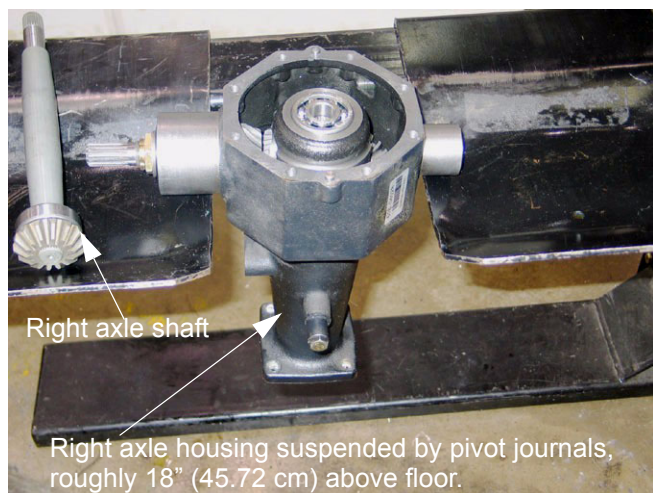

Figure 9.43
- 9.43. Position the differential in the right side axle housing. See Figure 9.43.